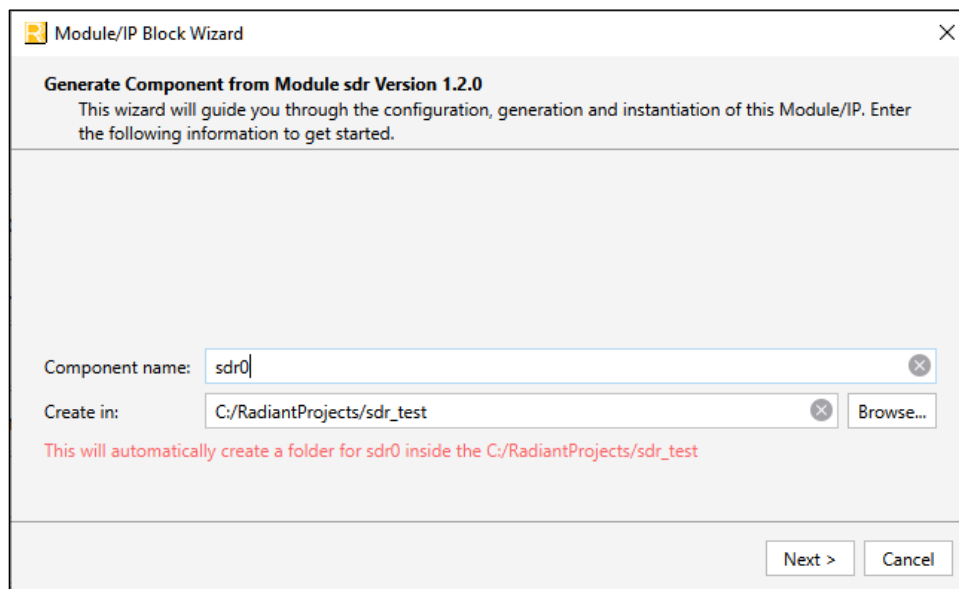
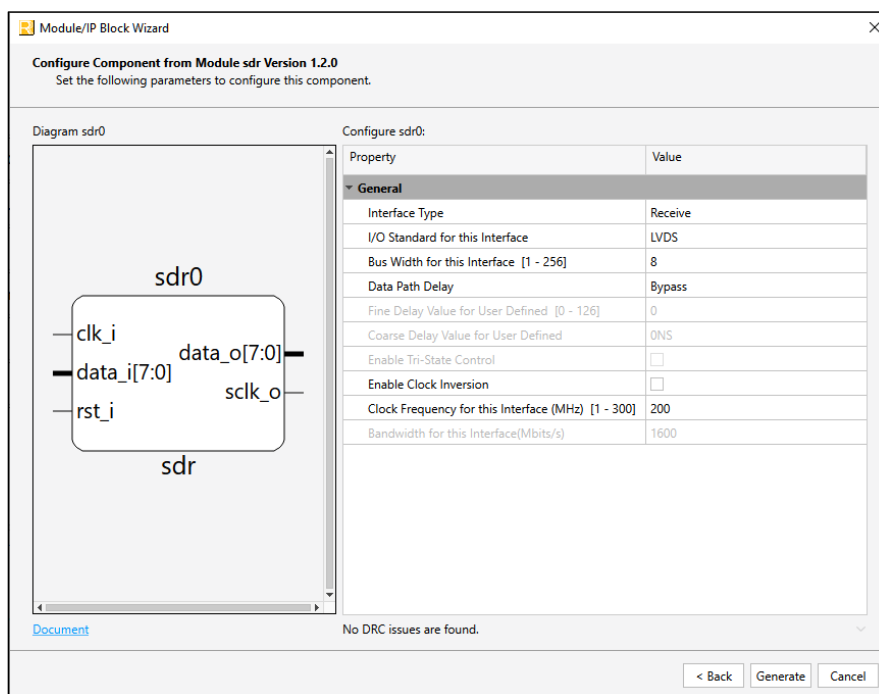
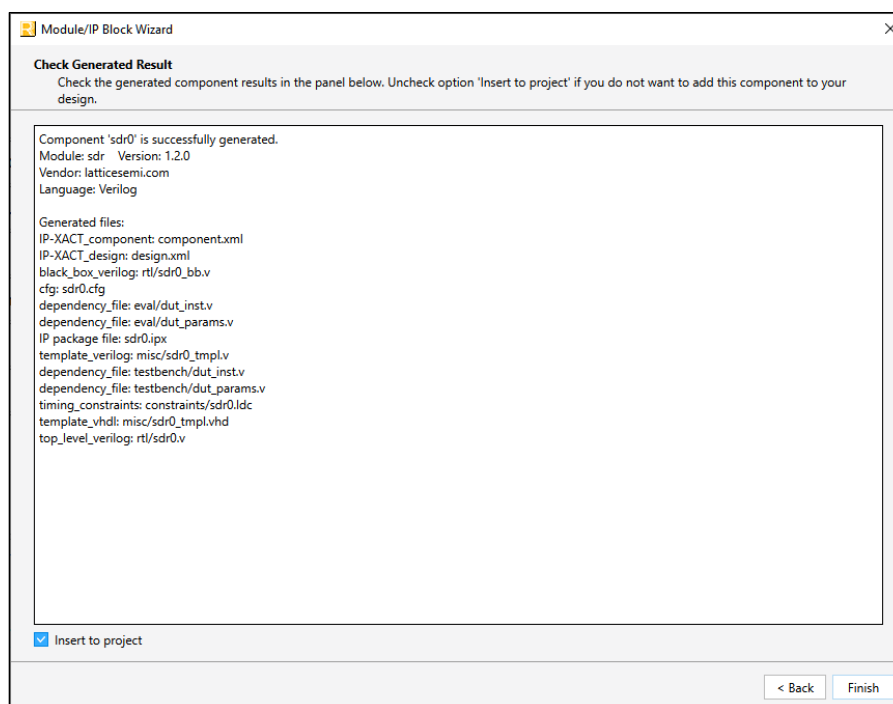

Figure 3.1. Module/IP Block Wizard
Figure 3.2. Configure Block of SDR I/O Module
Figure 3.3. Check Generated Result
2. In the **IP Catalog** tab, double-click on **SDR** under **Module, Architecture_Modules, IO** category. The **Module/IP Block Wizard** opens as shown in Figure 3.1. Enter values in the **Component name** and the **Create in** fields and click **Next**.
3. In the module's dialog box of the **Module/IP Block Wizard** window, customize the selected SDR I/O module using drop-down menus and check boxes. As a sample configuration, see Figure 3.2. For configuration options, see the Attribute Summary section.
4. Click **Generate**. The **Check Generated Result** dialog box opens, showing design block messages and results as shown in Figure 3.3.
- Click the **Finish** button. All the generated files are placed under the directory paths in the **Create in** and the **Component name** fields shown in Figure 3.1.
IP Generation and Evaluation	Updated Figure 3.1. Module/IP Block Wizard , Figure 3.2. Configure Block of SDR I/O Module and Figure 3.3. Check Generated Result .